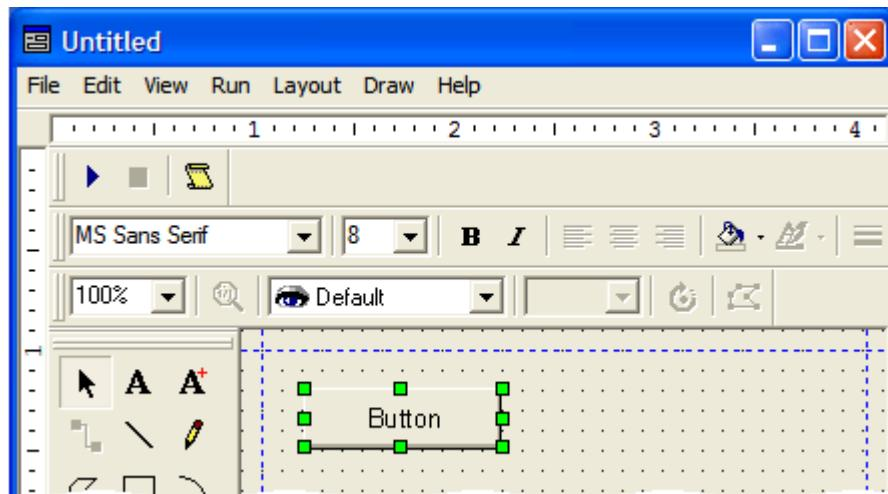

Figure 4-10. Oh, the excitement of placing your first button!
- 1) On the left of the form editor is the **Object Bar**, which presents graphical depictions of the various objects you can add to your forms. For the purposes of this example, you are going to add three buttons (*Count All*, *Count Selected*, and *Cancel*) to your form. Click the **Button** object (the icon that looks like a button in the middle of the **Object Bar**) and then move the mouse cursor into the main form editor area and click again to place your button (Figure 4-10).